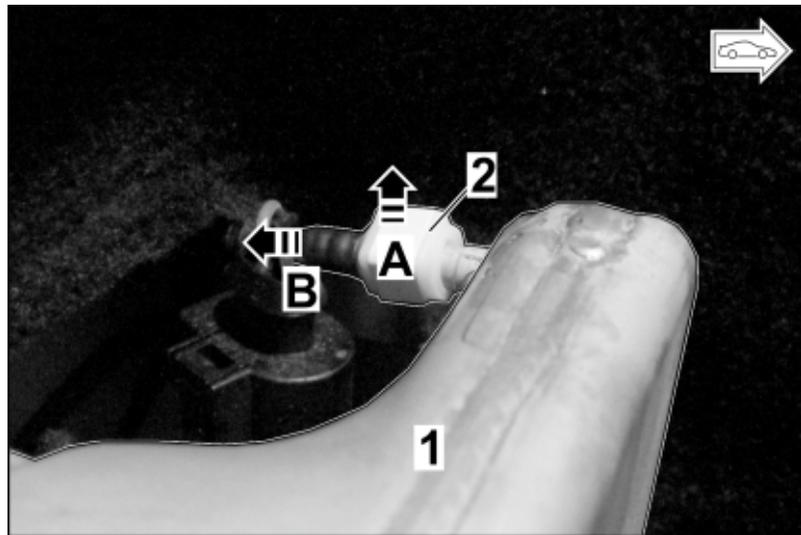

Figure 77
- 10.3.1 Disconnect vent line from water tank (standard) (⇒ *Figure 77*).
Pull white retaining clip upwards (⇒ *Figure 77 -A-*) and remove line from water tank (⇒ *Figure 77 -B-*)